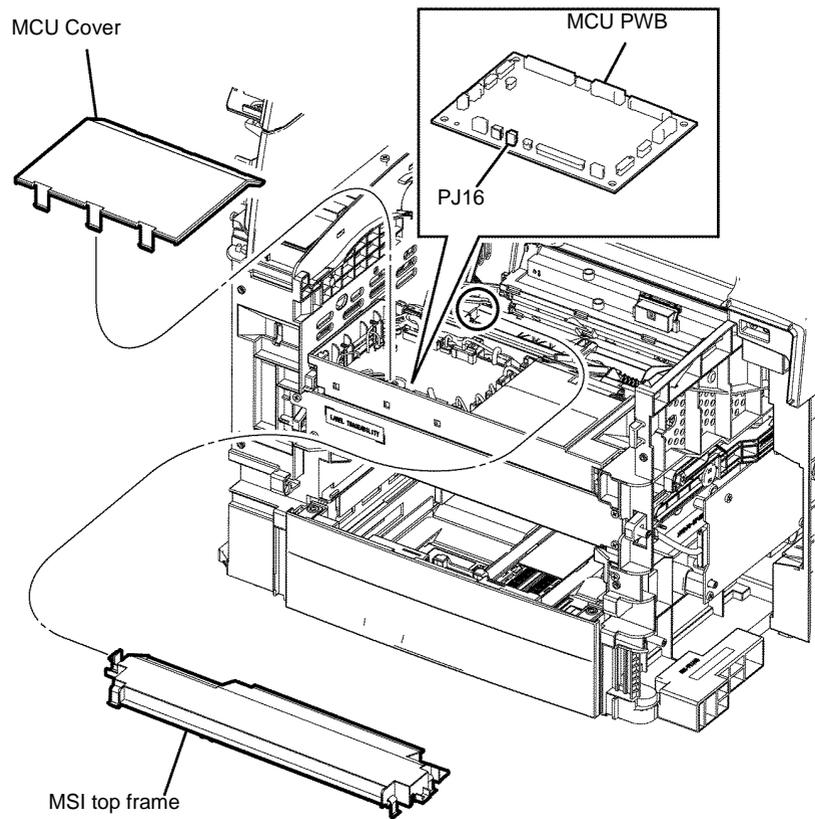

Figure 2 T24 inverter clutch assembly harness release
13. Release the four hooks that fix the MSI top frame, then remove the MSI top frame, Figure 2.
14. Remove the MCU cover by releasing the hook. Disengage PJ16 from the MCU PWB, then release the harness of the T24 inverter clutch assembly from the harness guide, Figure 2.